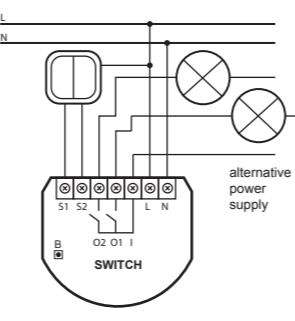

Fig.1 Wiring diagrams for Double Relay Switch.
STEP 1 Connect the device in accordance with the wiring diagram presented in Figure 1. Switch on 230V of the mains voltage.